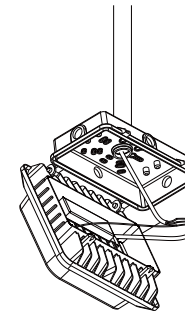

Figure 1-5
5. Connect the input line and ground; If the fixture is equipped with sensor, adjust the sensor settings; Take relevant waterproof measures after the wires are connected ;Figure 1-5